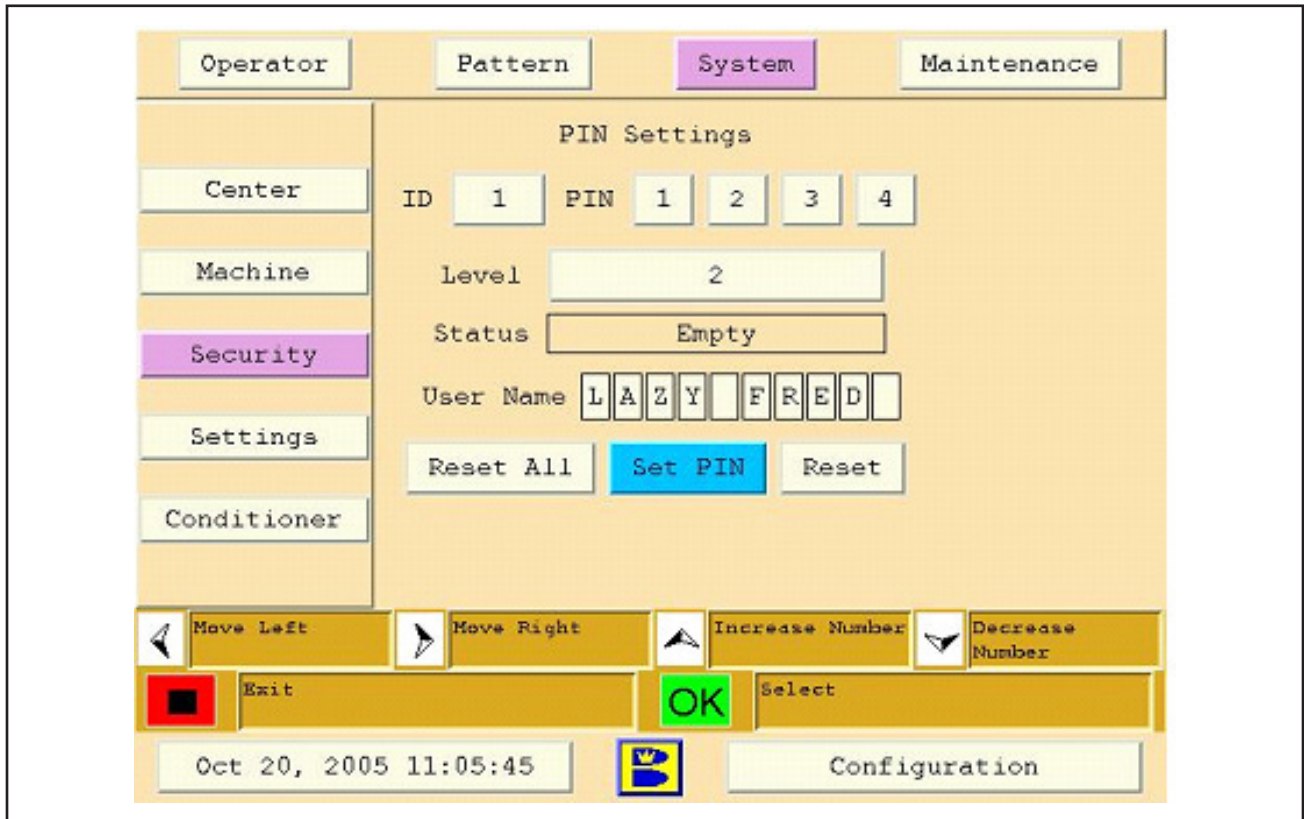

Figure 4-20. System Security
1. Go to the System menu. Refer to Figure 4-20.